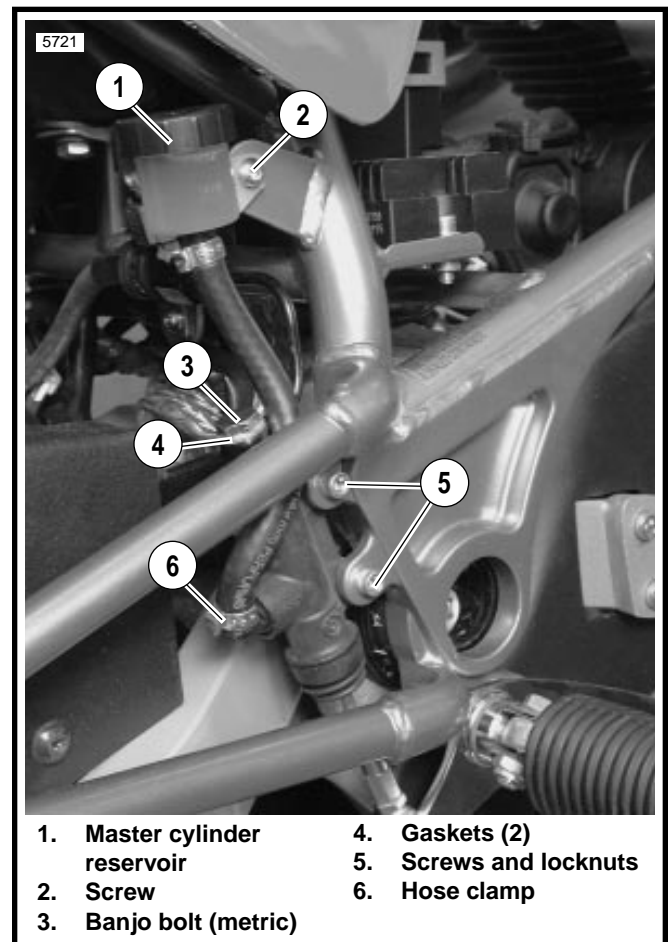

Figure 2-24. Rear Master Cylinder
3. See Figure 2-24. Remove banjo bolt (metric) (3) and two gaskets (4) from rear master cylinder. Discard gaskets.
4. Remove two screws and locknuts (5) holding the rear brake master cylinder to frame.
1. See Figure 2-24. Mount reservoir assembly on frame with screw. Tighten screw to 12-15 **in-lbs** (1.4-1.7 Nm). Clamp reservoir hose to rear master cylinder with a **new** clamp and **HOSE CLAMP PLIERS** (Part No. HD-41137).